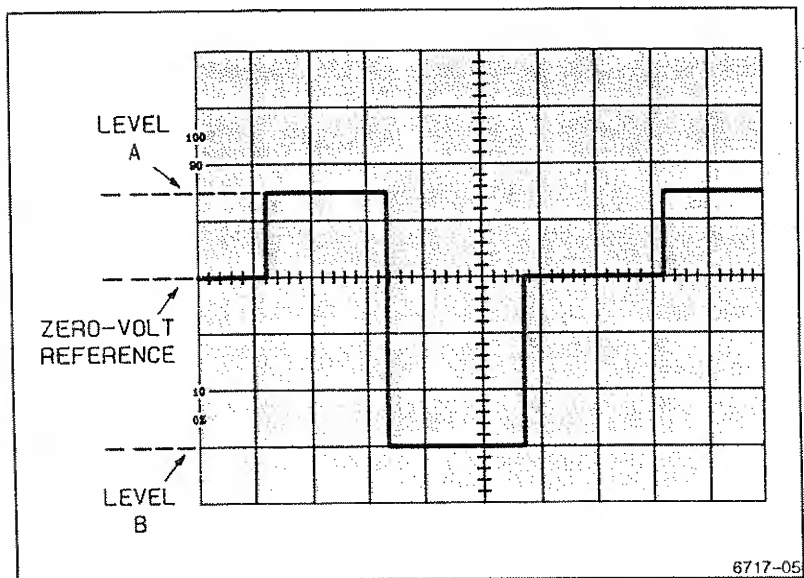

Figure 3-2. Instantaneous voltage measurement.
8. Measure the divisions of vertical deflection between the ground reference line and the point on the waveform at which the level is to be determined (see Figure 3-2).
**EXAMPLE.** In Figure 3-2, the zero-volt reference is as shown at the center vertical graticule line, a 10X attenuation probe is being used, and VOLTS/DIV is set to 2 V (10X PROBE). Two unknown voltage levels, A and B, are marked on the waveform. A is 1.5 divisions above the zero-volt reference level, and B is three divisions below the zero-volt reference level. What are the respective voltages of levels A and B?